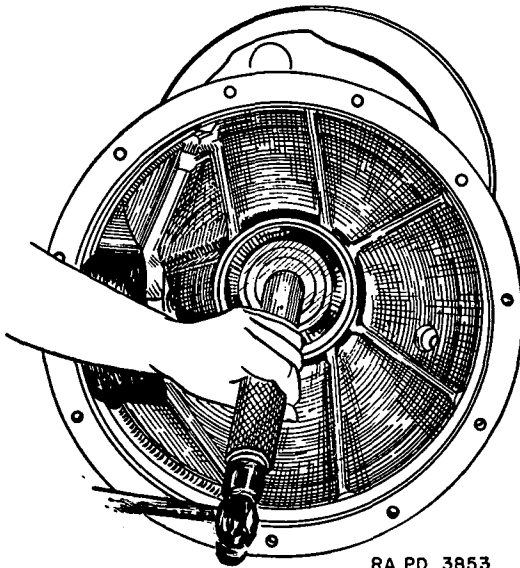

FIGURE 37.—Front axle tube oil seal replacement.
(1) Replace oil seals—hammer, seal driving tool. Drive axle tube oil seals into position at differential end (fig. 37).